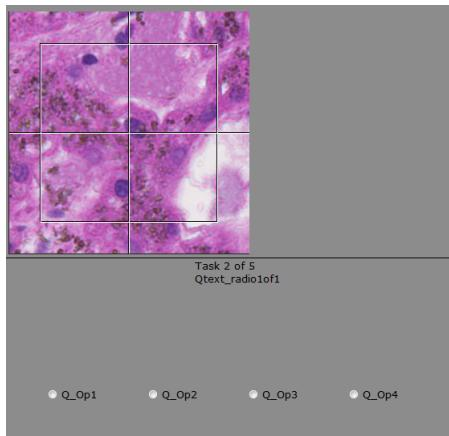

Figure 3
1. Select the one of the options that accommodates the description (*Figure 3*)